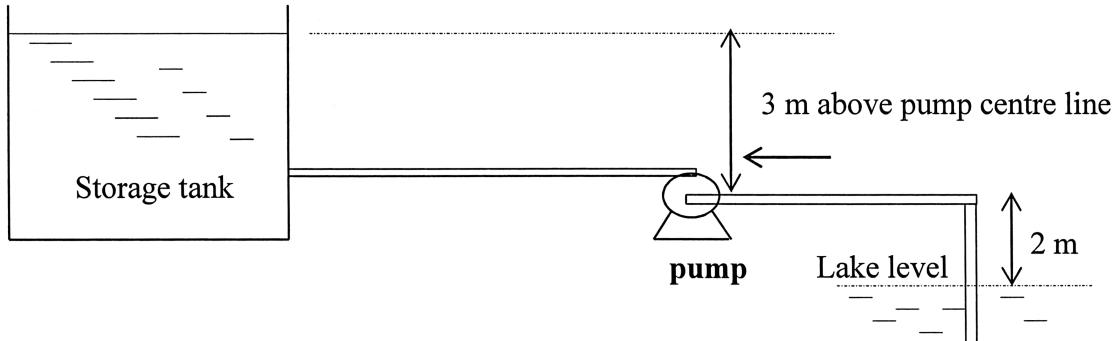

Figure 4
4. Water is pumped from a lake to a storage tank as shown in Figure 4. The highest level of the lake is 2 m below the pump centre line. The characteristic of the centrifugal pump is given in Graph A